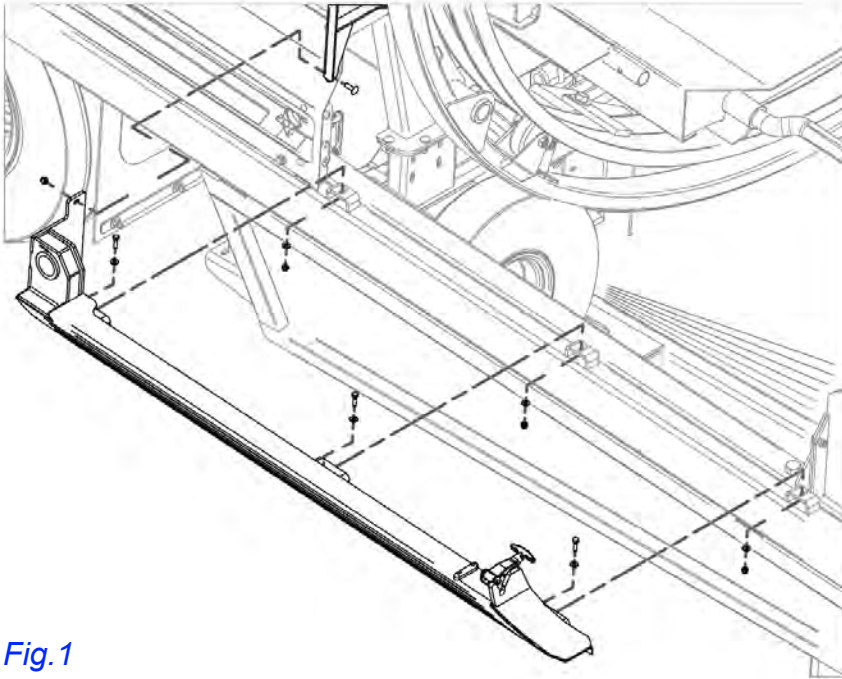

Fig.1
3. Install bottom safety guard mounts using bolts, washers and nuts. Left side shown in Fig. 1, right side is the same.